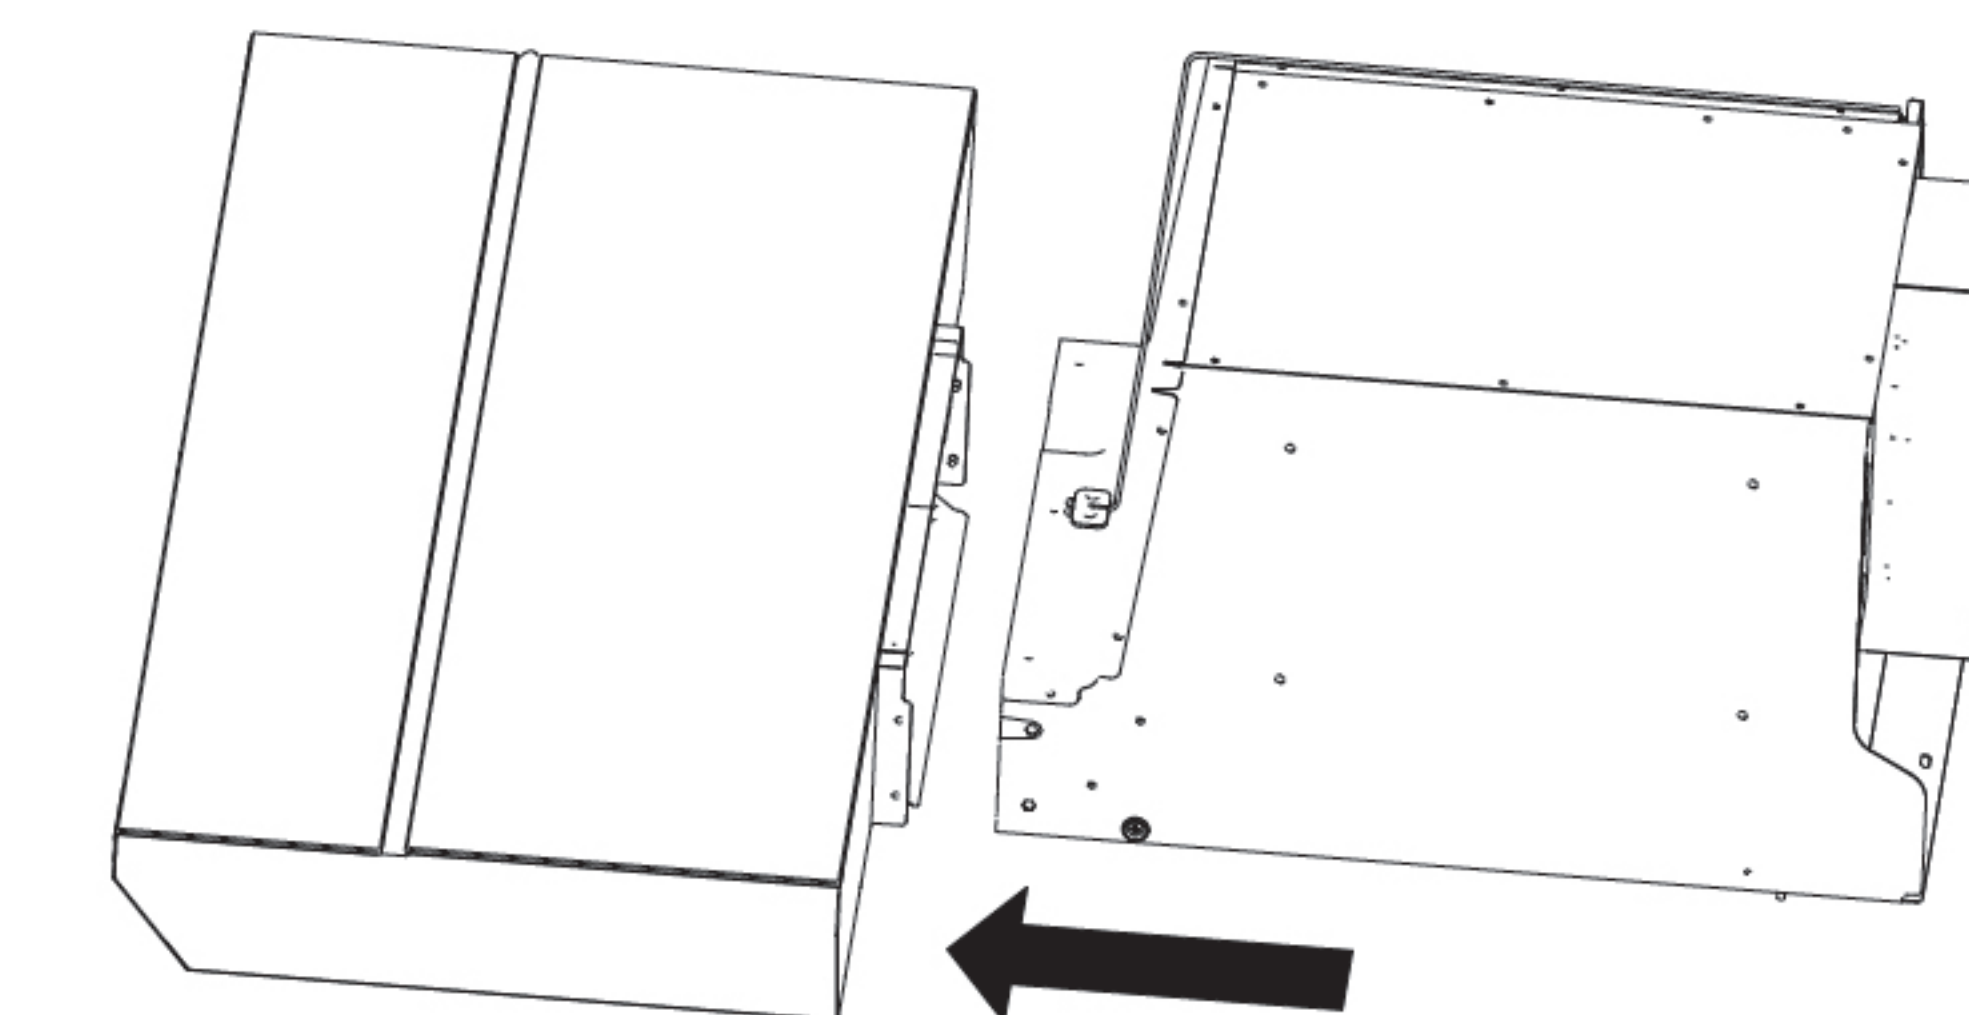

Fig.14
5. Place the fan system of the range hood inside the chamber assembly along the fan frame support, until reaching the bottom of the fan frame support (as shown in Fig. 14).